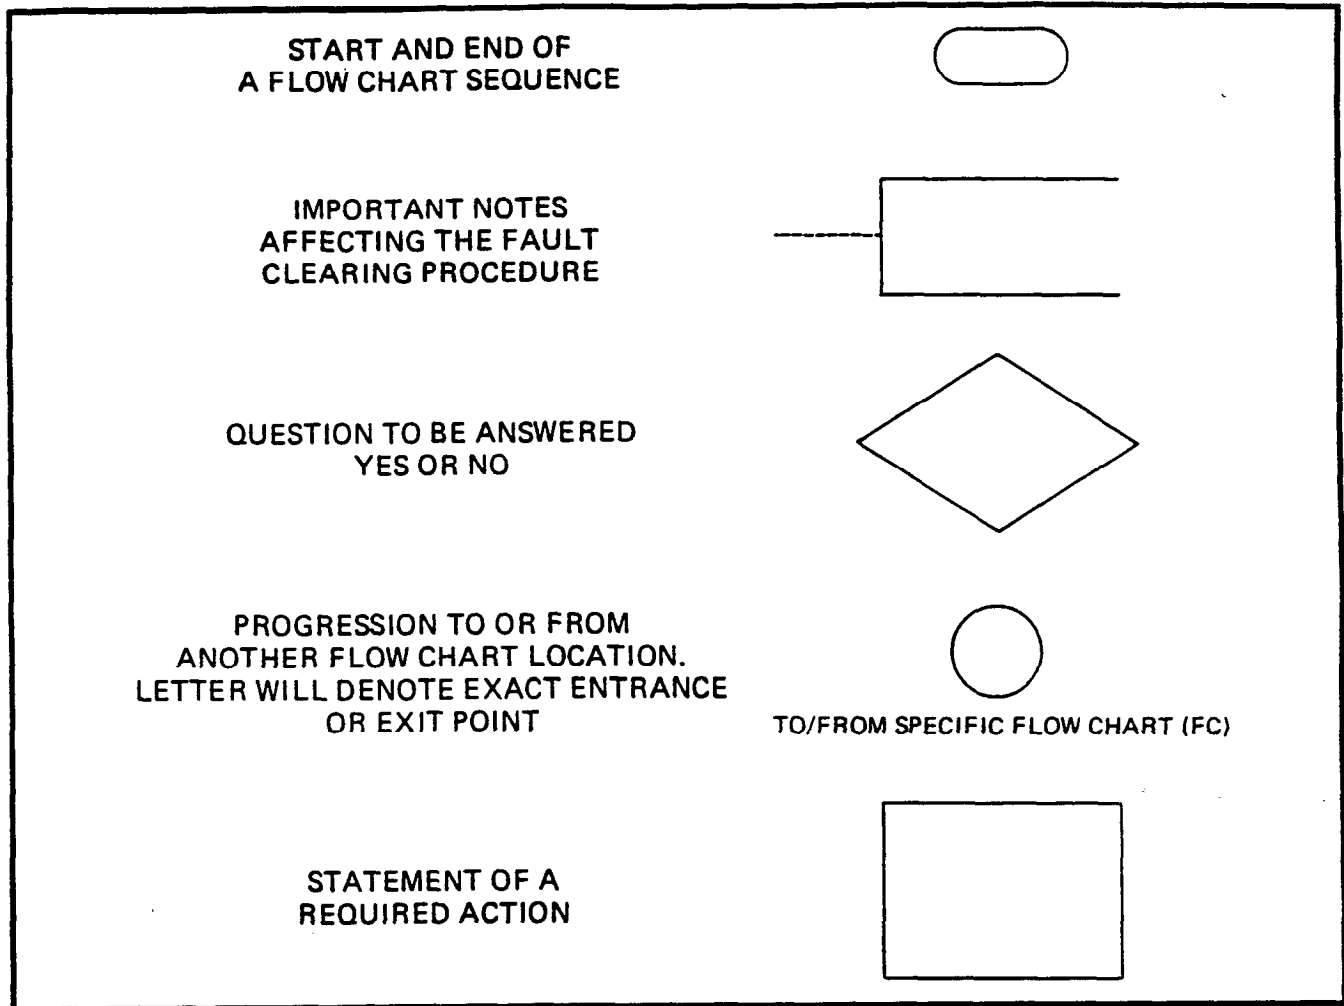

FIGURE 1—FLOW CHART SYMBOLS
03.03 Five symbols are used in the flow charts. These symbols are identified in Figure 1.